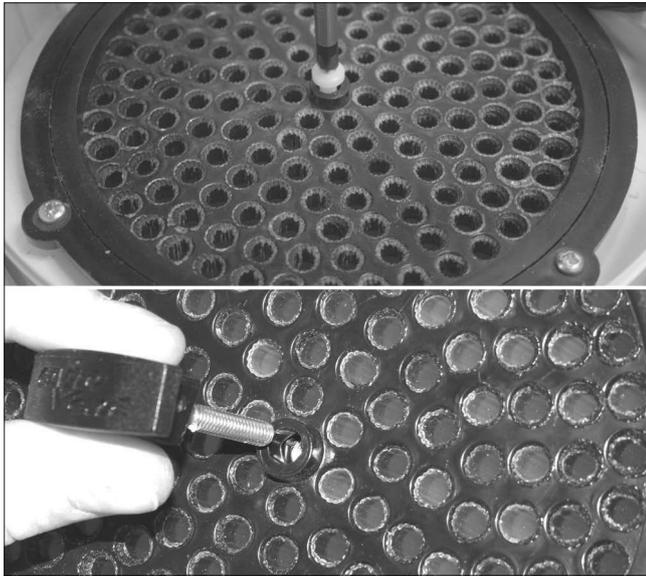

Fig.21A
- 21 Remove the plastic screw on the heat cell by using a screwdriver and screw the cell key in (Fig.21A).